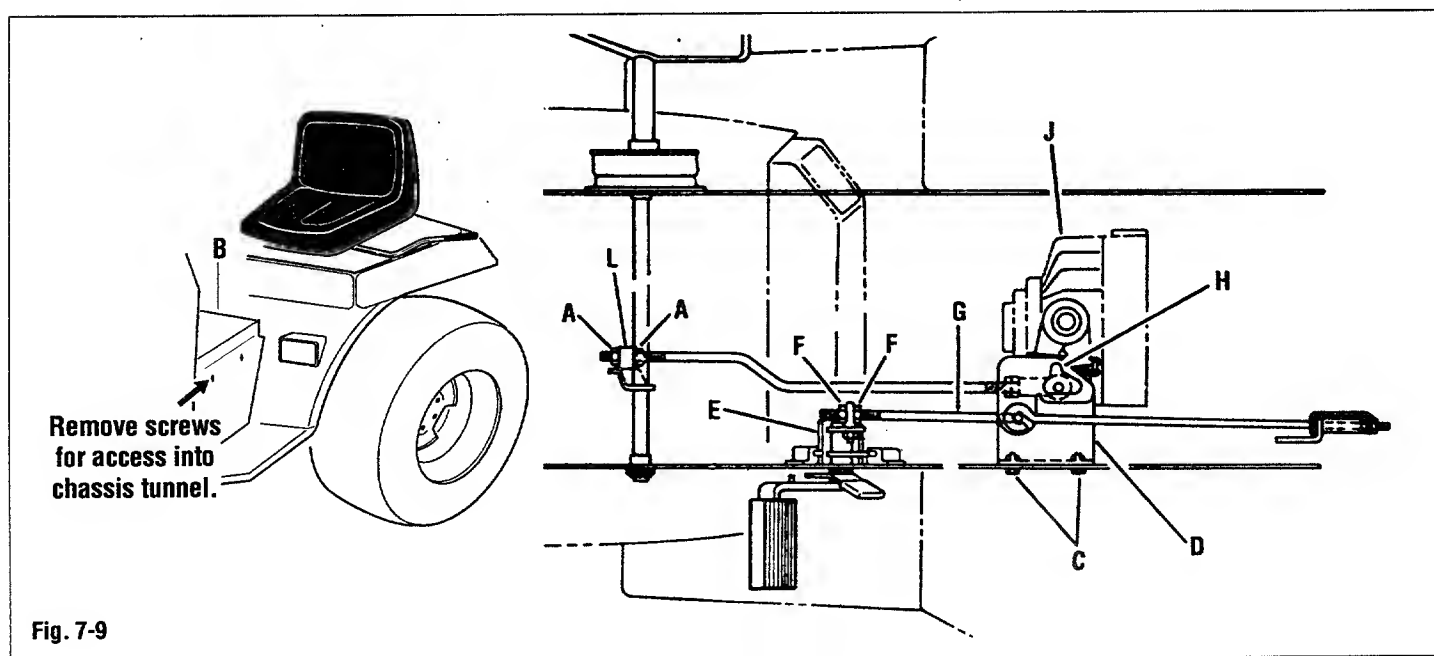

Fig. 7-9
1. Loosen hex nuts (A, Fig. 7-9).
3. Retighten nuts (A) against rod end (L).
2. Remove tractor chassis tunnel (B, Fig. 7-9) by removing the four screws indicated.
4. Loosen capscrews (C). Move support plate (D) forward if wheel rotates in a forward direction or move support plate toward the rear if it rotates in reverse.
5. Tighten capscrews (C) when wheels no longer rotate.
6. Stop engine and lock brake arm against stop (E).
7. Loosen jam nuts (F) and turn rod (G) until pin enters slot (H) of neutral plate. Adjust until there is a gap of 1/32" between end of slot and pin.